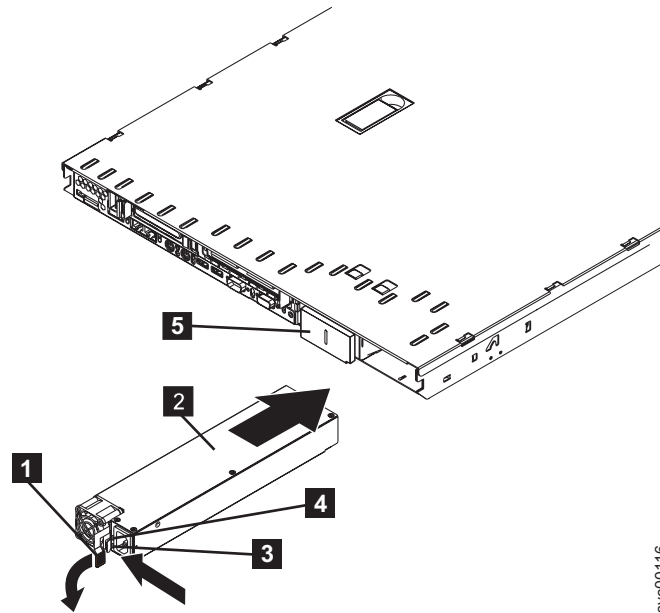

Figure 131. SAN Volume Controller 2145-8F2 power supply
- a. Rotate the handle **1** down on the rear of the power supply to the open position, and then slide the power supply forward into the power-supply bay, as shown in Figure 131.